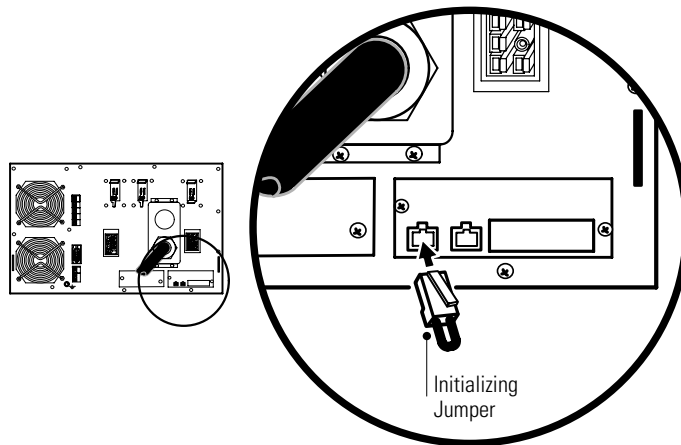

Figure 40. Installing the Initializing Jumper
8. Install the supplied initializing jumper (see Figure 40) into the CAN IN port on the UPS.